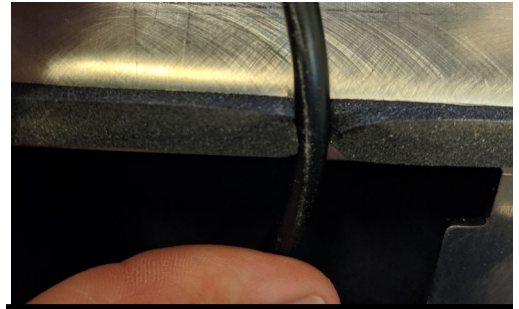

Figure 4—Cutting slot in gasket.
7. Cut a small slot in the gasket to allow for the wire to feed through. Holding the light up to the bracket will give a good idea where to cut the slot to avoid pinching the wire. (**Figure 4**)
8. Feed the wire through the hole behind the 3rd brake light and route it through the cab to a suitable switch mounting location. (Figure 4)